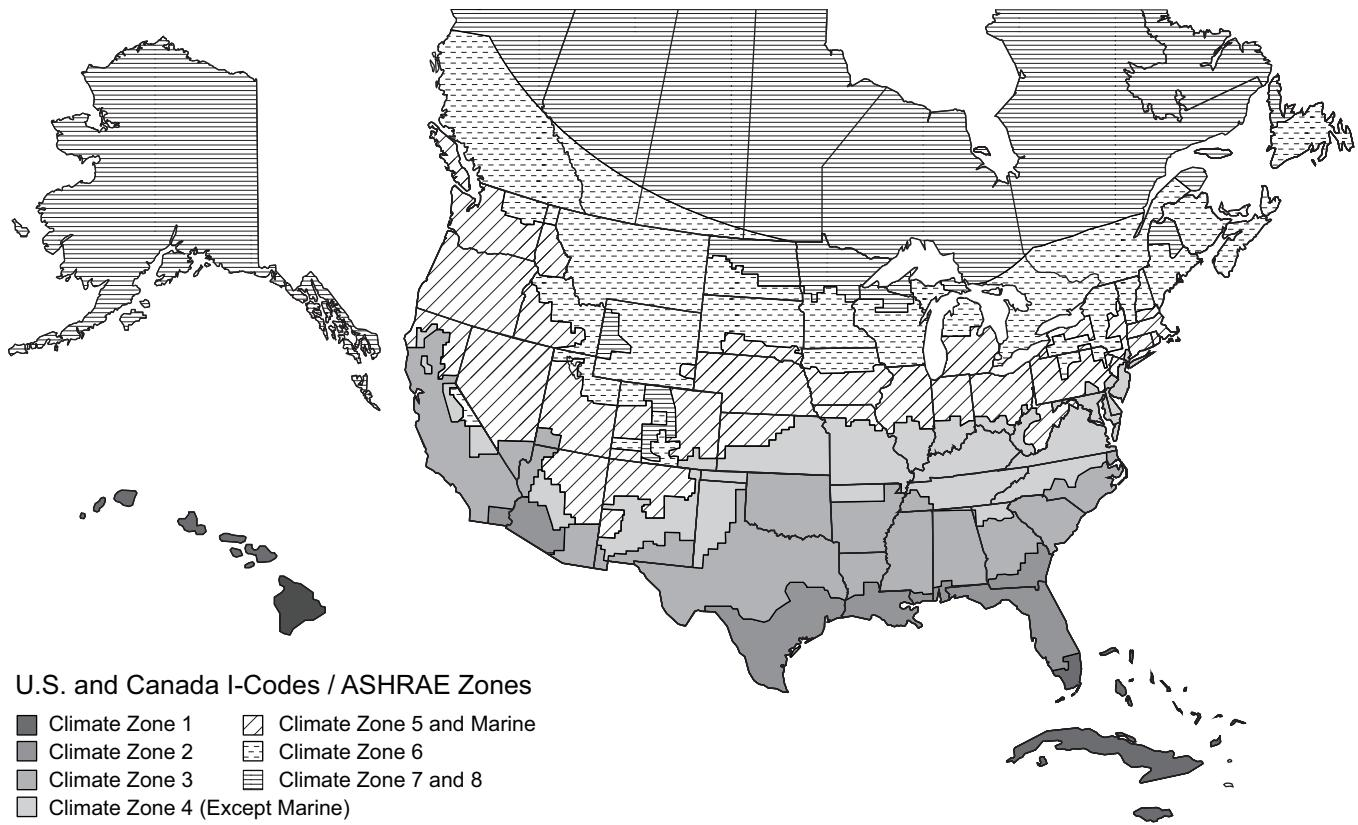

Fig. 80 — U.S. and Canada Climate Zones
- Refer to Fig. 80 for map of U.S. and Canada climate zones.